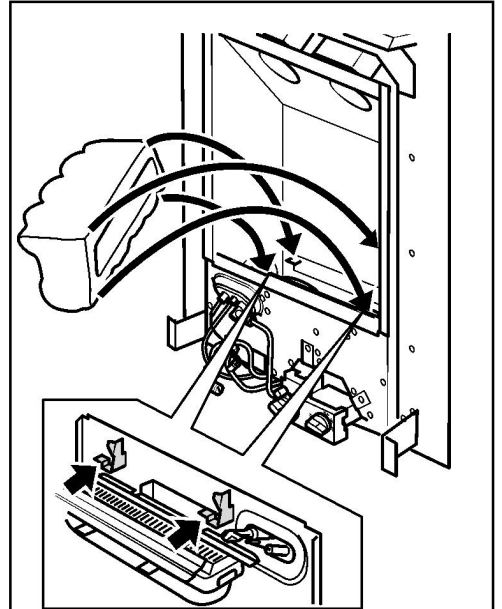

Figure 14. Ceramic coal base location
1. Fit the ceramic coal into the fire above the burner. The front of the ceramic coal should locate on the horizontal faces but behind the vertical faces of the two location brackets positioned at the front of the burner module. See figure 14.